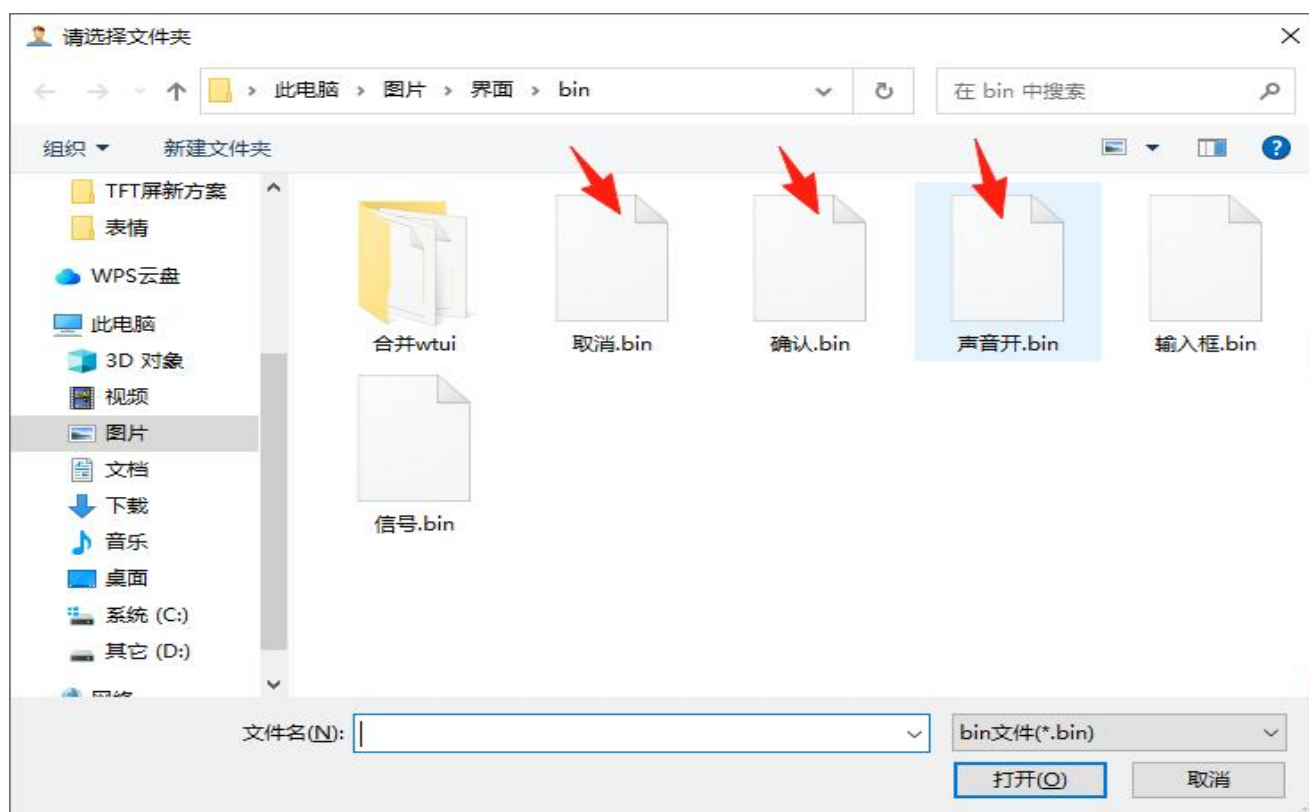

Figure 4-6 Select the bin file to upgrade
1、Open the upgrade file: it will jump to the "bin" folder as shown in Figure 4-6. You can select the bin files of pictures and videos you want to update in the bin folder. You can place one or more files, but note that the number of files to be updated cannot be greater than the number of existing files.